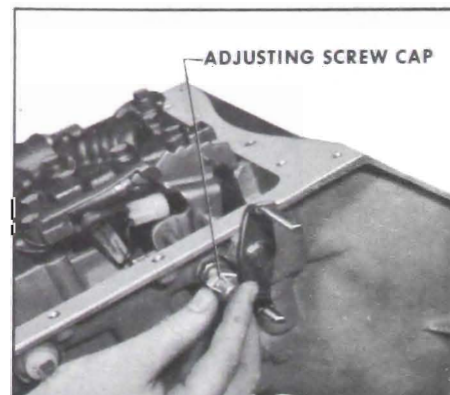

Figure 5-332
3. Install adjusting screw, cap. See Figure 5-332.